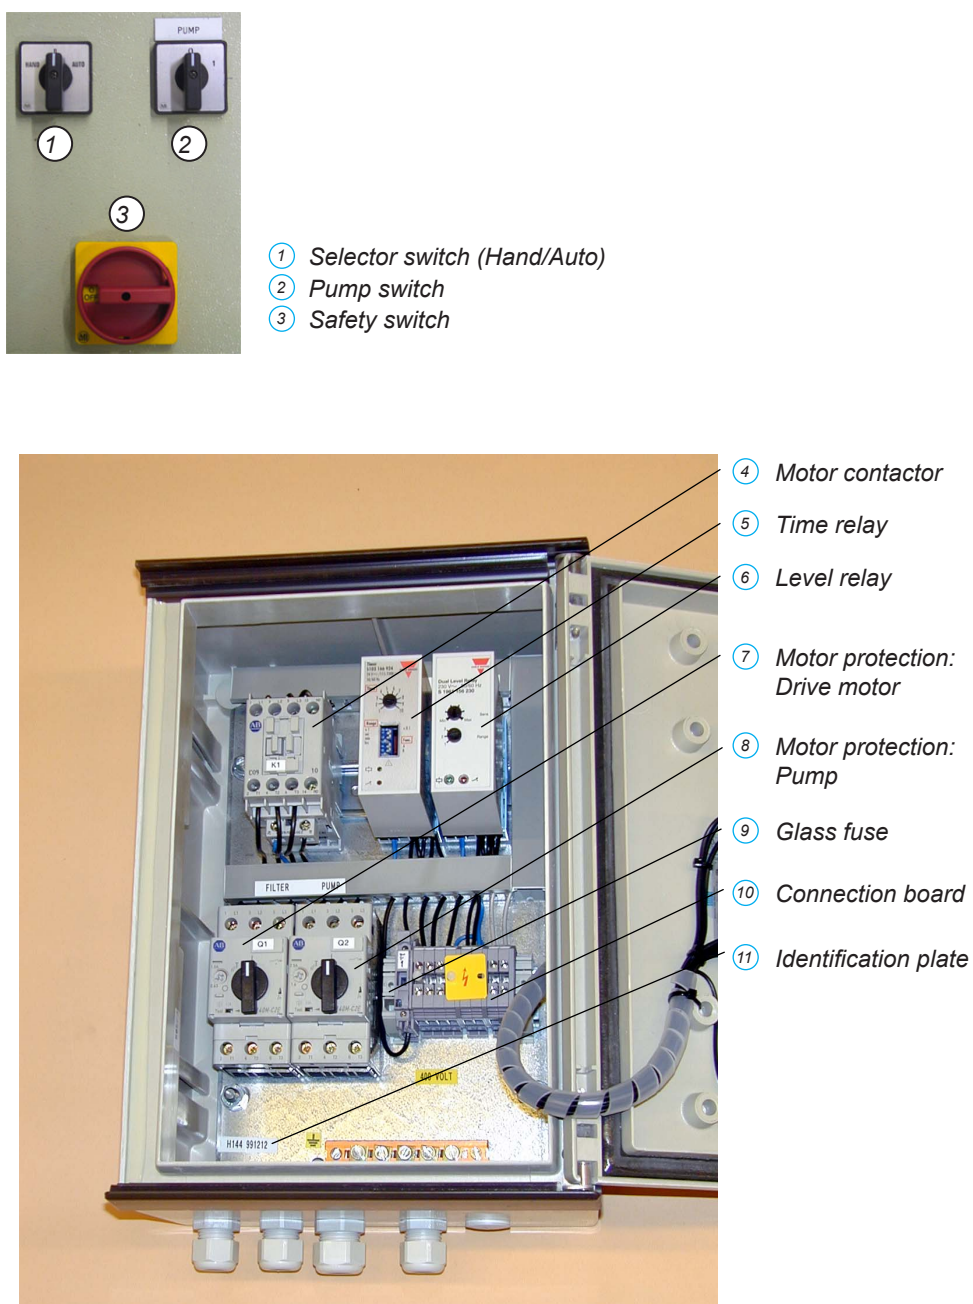

Figure 5.2 Hydrotech standard control cabinet (optional)
2. Set the pump switch to 0 (see ⑥ in *Figure 5.2*).
3. Set the safety switch to ON (see ⑦ in *Figure 5.2*).
4. Set the selector switch to HAND (see ⑤ in *Figure 5.2*).
Use the selector switch to select operation mode (see ⑤ in *Figure 5.2*).
A time relay (see ⑤ *Figure 5.2*) is used to delay the backwash stop when the water level is below the level sensor. The time relay is preset so that the drum is backwashed during one rotation.
The sensitivity of the level sensor can be set from MIN. to MAX. on the level relay and three different sensitivity ranges can be selected on the lower level relay switch (see ⑥ in *Figure 5.2*).